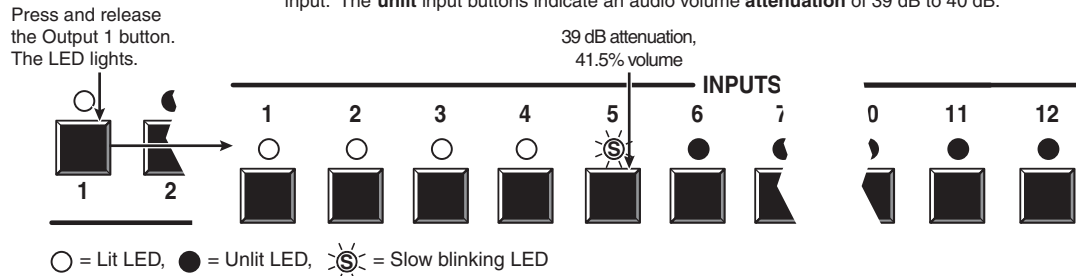
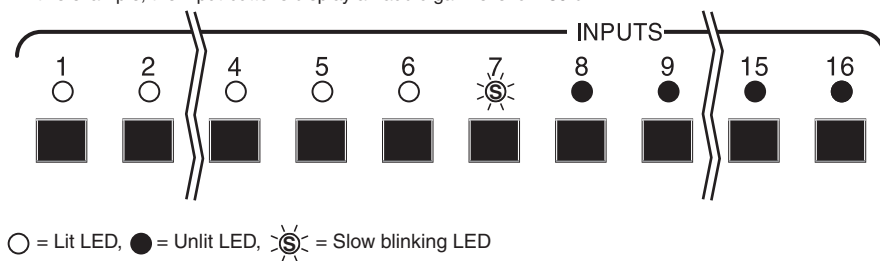
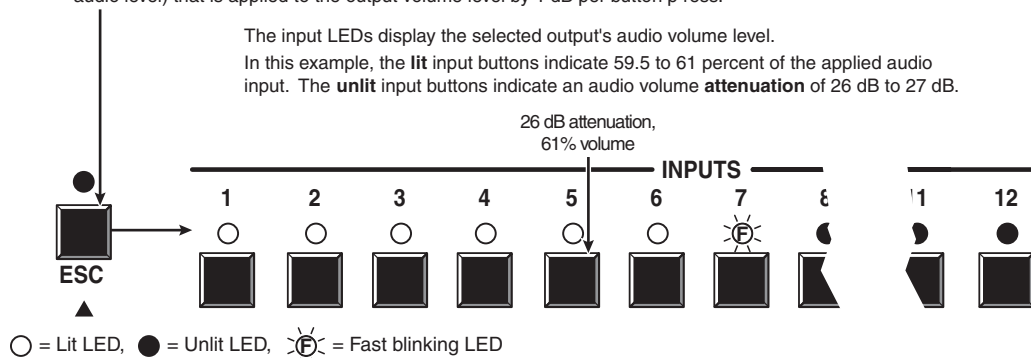
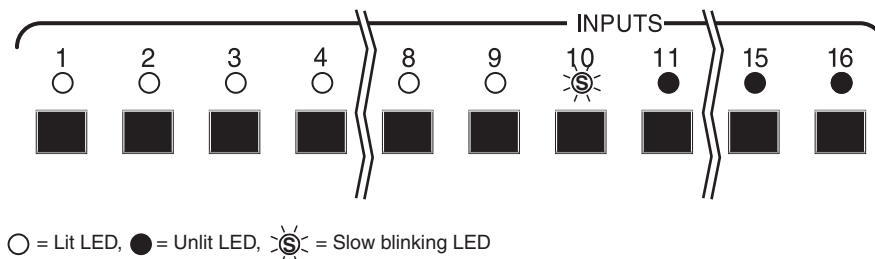

Figure 3-52 — Select output 1
Figure 3-53 — Volume display on a 16-output-button switcher
Figure 3-54 — Adjust the output audio volume
Figure 3-55 — Volume display on a 16-output-button switcher
Audio output volume is displayed differently on different models. See the table on page 3-32. For this reason, figure 3-53 and figure 3-55 show the indications displayed on a switcher with 16 output buttons without duplicating all of the actions shown in figure 3-52 and figure 3-54, which show all actions on switchers with 12 output buttons.
- Press and release the Output 1 button (figure 3-52).
NOTE Figure 3-52 shows the volume level (39 dB attenuation) displayed on the MVX 128 A, an 8-output-LED switcher.
Figure 3-53 shows the same volume (41.5%) as in figure 3-52, but displayed on a 16-output-button switcher, such as an MVX 168 A.
- Press and release the Esc (▲) button once (figure 3-54) to increase the volume by 1.5%.
Press and release the Esc (▲) button several more times (figure 3-54) to increase the volume by 1.5% per button push. Note the input LED indication changes that occur each time the Esc (▲) button is pressed and released.
Figure 3-54 shows the result of pressing the Esc (▲) button a total of 13 times.
NOTE Figure 3-54 shows the adjusted volume level (26 dB attenuation) displayed on the MVX 128 A, an 8-output-LED switcher.
Figure 3-55 shows the same volume (61%) as in figure 3-54, but displayed on a 16-output-button switcher, such as an MVX 1616 A.